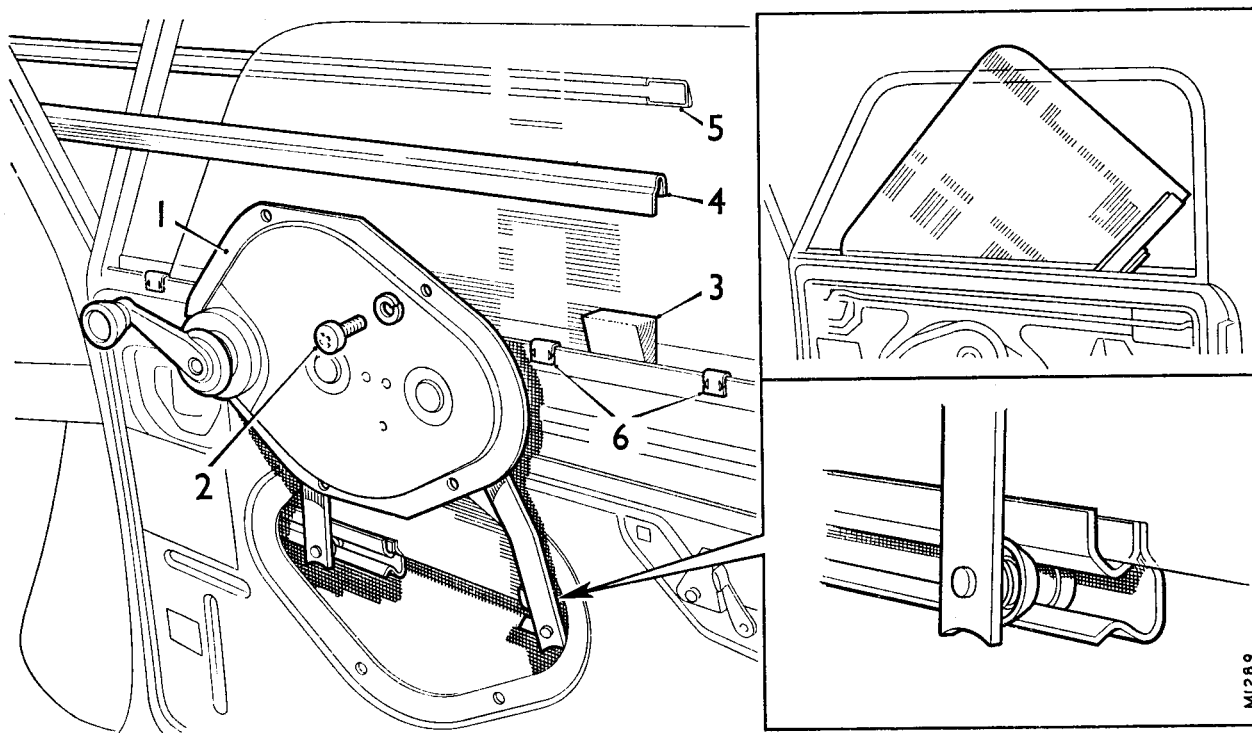

Fig. Rb.8
- Remove the outer and inner waist rail finishers (Fig. Rb.8).
- Remove the regulator assembly securing screws and use the regulator handle to raise the door glass approximately one-half of its travel (Fig. Rb.8), and use a wooden wedge or block to maintain this position whilst removing the regulator.
- Lever the regulator assembly slightly away from the door panel and turn the regulator handle until the arms are in the vertical position (see Fig. Rb.8). The regulator arms can now be disengaged from the glazing channel by moving the regulator towards the front of the door until the rear arm is free and then moving it rearwards to release the other arm.
- Release the wedge on the door glass, turn the glass as shown in Fig. Rb.8 and remove it from the door.
- When refitting the door glass, ensure that it is located in the glazing channels and wedge it in the position shown in Fig. Rb.8 to facilitate engagement of the regulator arms. Apply sealer around the edge of the regulator plate.